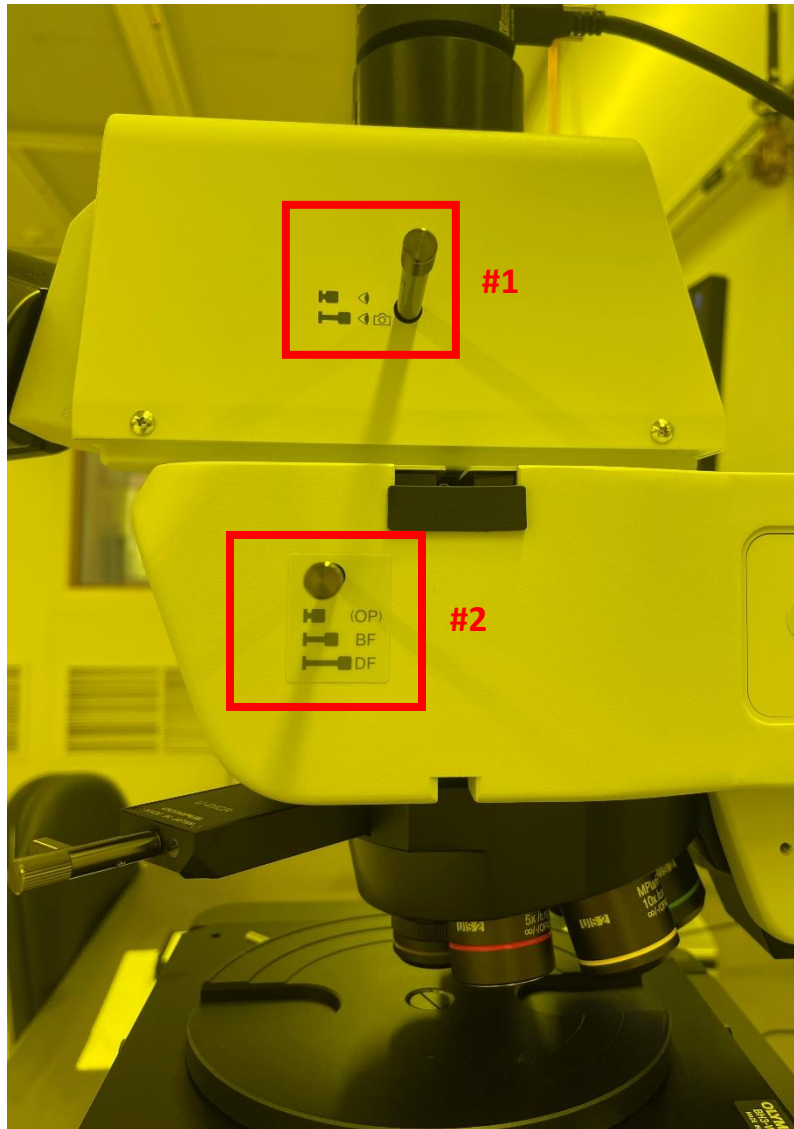
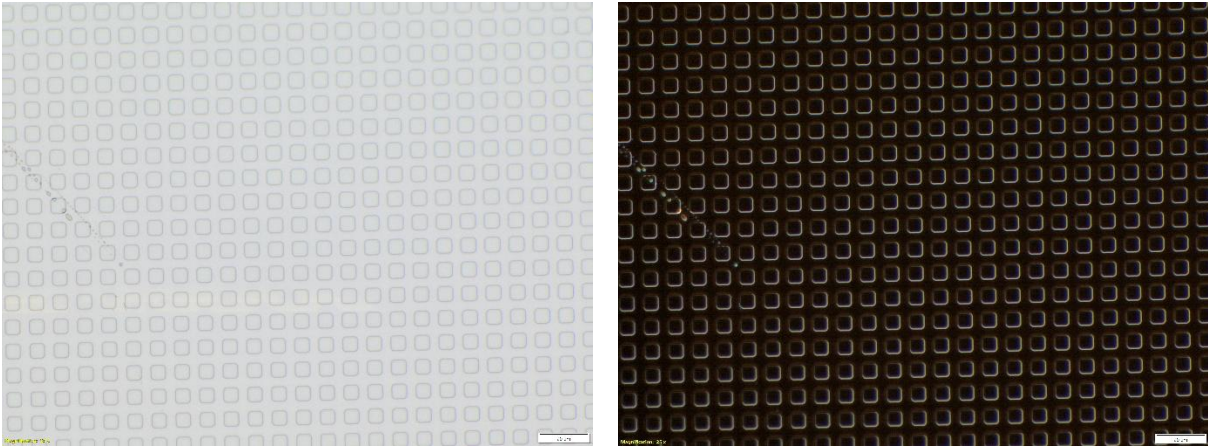

Figure 7. Light Path Selection Knob (#1) and Observation Light Path Selection Knob (#2)
Figure 8. Bright-field (left) and Dark-field (right) Images
10. Adjust the light path selection knob (Figure 7, #1) to choose whether to observe through the eyepiece or via the camera display.
11. Adjust the observation light path selection knob (Figure 7, #2) to choose between bright-field or dark-field imaging, depending on your analysis. The differences between bright-field and dark-field imaging are illustrated in Figure 8.